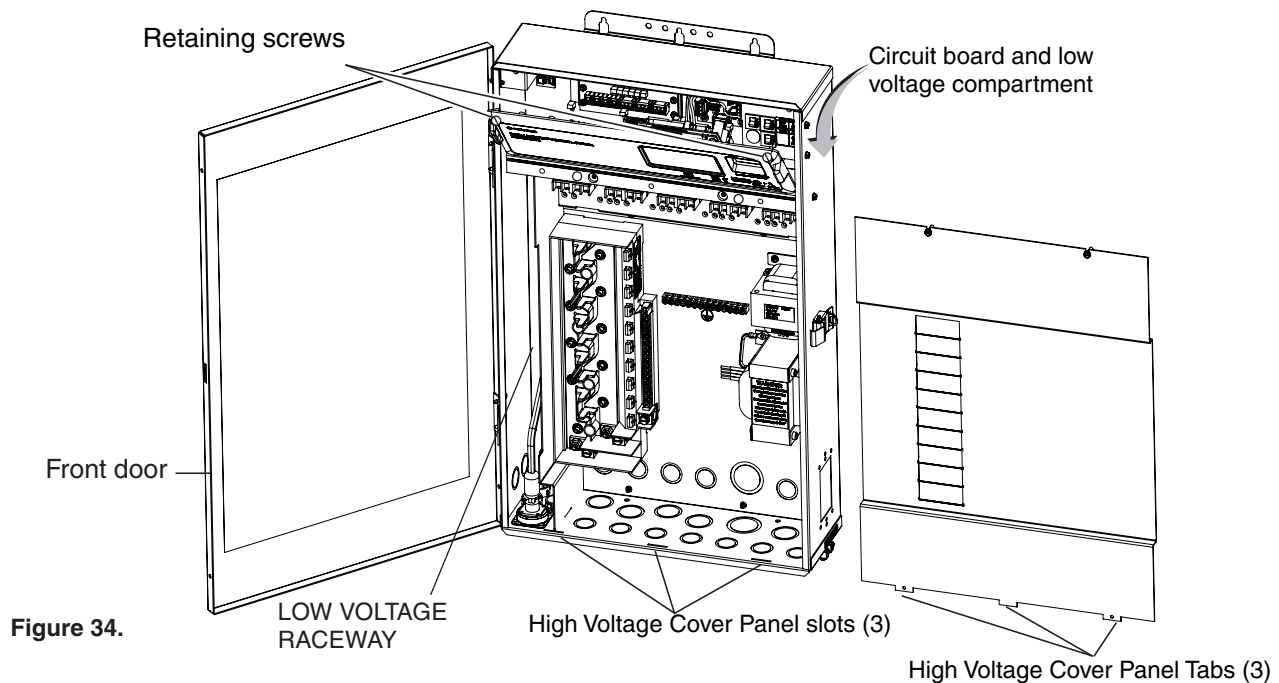

Figure 34.
2. Unlatch the front door latch and open the front door. Remove the two retaining screws from the High Voltage Cover Panel and remove the panel. See **Figure 34**.